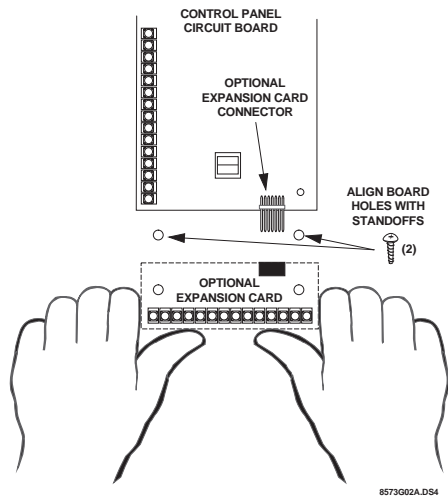

Figure 2. Installing the Card in Concord Panel
2. Align the card holes with the standoffs and connector pins as shown in figure 2 or 3.